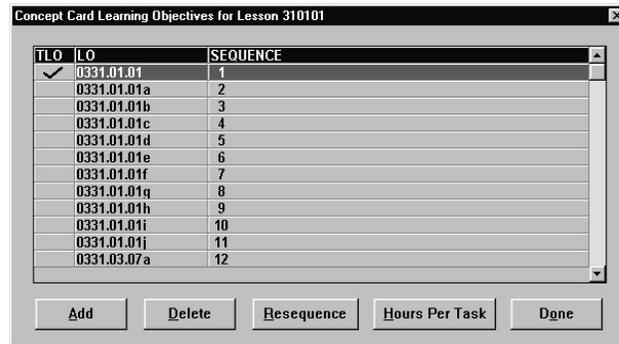
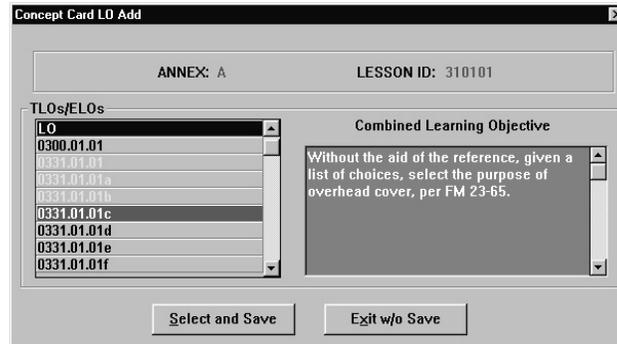
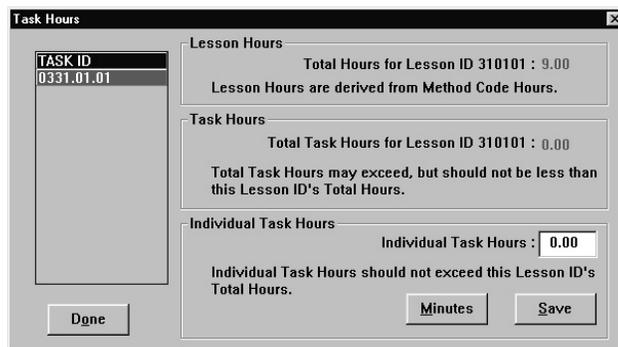

Figure 6-83. Concept Card Learning Objectives for Lesson
Figure 6-84. Concept Card LO Add
Figure 6-86. Task Hours
- Click on **TLOs/ELOs**. The Concept Card Learning Objectives for Lesson selection list box (Figure 6-83) opens. Note that MCAIMS identifies the lesson in the title bar.
1. From the Concept Card Learning Objectives for Lesson selection list box (Figure 6-83), click on **Add**. The Concept Card LO Add selection list box (Figure 6-84) opens.
1. From the Concept Card Learning Objectives for Lesson selection list box (Figure 6-83), mark the learning objectives you wish to remove from the concept card using the multiple select feature.
1. From the Concept Card Learning Objectives for Lesson selection list box (Figure 6-83), highlight the desired learning objective.
1. From the Concept Card Learning Objectives for Lesson selection list box (Figure 6-83), click on **Hours Per Task**. The Task Hours dialog box (Figure 6-86) opens with a consolidated list of the parent tasks associated with all learning objectives on this concept card.